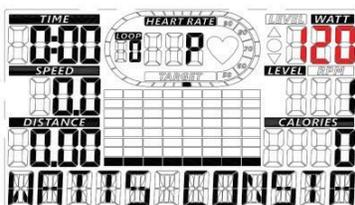

Fig. 25
- To set WATT, press UP (▲)/DOWN (▼) buttons (within the range 10~350 without recyclable function with default value 120, as shown in Fig. 25). When finish, press “SET” button to confirm and go to next step for TIME setting.